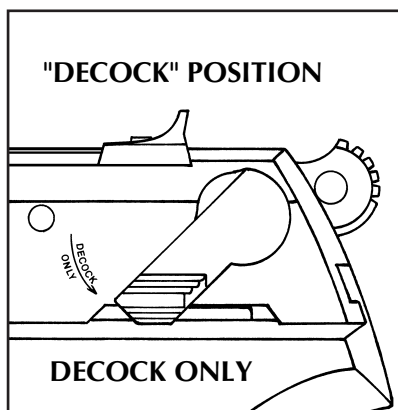
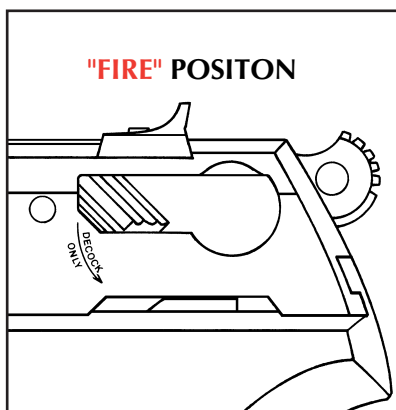

FIGURE 1
FIGURE 2
To decock the pistol, point the pistol in a safe direction. Depress the decocking lever until the hammer drops. The decocking lever first moves the firing pin into the slide far enough so that the rear end of the firing pin cannot be struck by the hammer. Only then will continued depression of the decocking lever safely drop the hammer to an uncocked position (see Figure 1). To return the pistol to firing condition, simply release the decocking lever (see Figure 2). It will spring upward to its original position. The pistol is then ready to fire by a “double-action” pull of the trigger. The hammer can also be manually cocked immediately before shooting a “single-action” firing. The trigger pull is both shorter and relatively lighter in the “single-action” mode, which is preferred for more accurate shooting.
1. The muzzle of the pistol must be pointing in a safe direction at all times, and fingers should be outside of the trigger guard. Decock the pistol by depressing the decocking lever until the hammer drops (see Figure 1, p. 12).